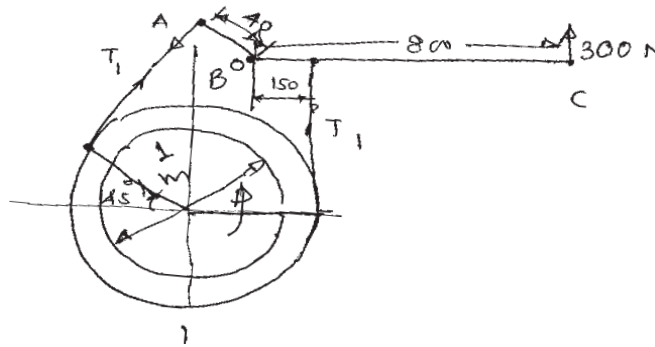

Figure. 1.
- b) A band and blocks brake with 15 blocks, each of which subtends an angle of 15° , is applied to a drum of 1m diameter as shown in fig.1. The drum and fly wheel mounted on the same shaft has a mass of 1500 kg and combined radius of gyration of 500 mm. Find a) maximum braking torque, b) angular retardation of the drum and c) time taken by the system to come to rest from the rated speed of 380 rpm. The coefficient of reaction between the drum and blocks is 0.25. [10]